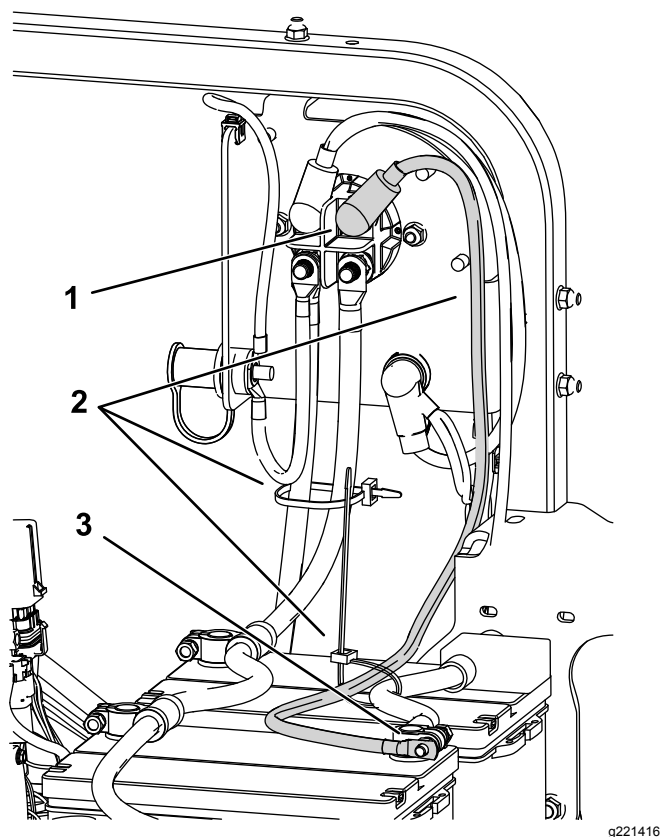

Figure 10
3. Install the 2-terminal cable and torque the nuts as shown in (Figure 10).